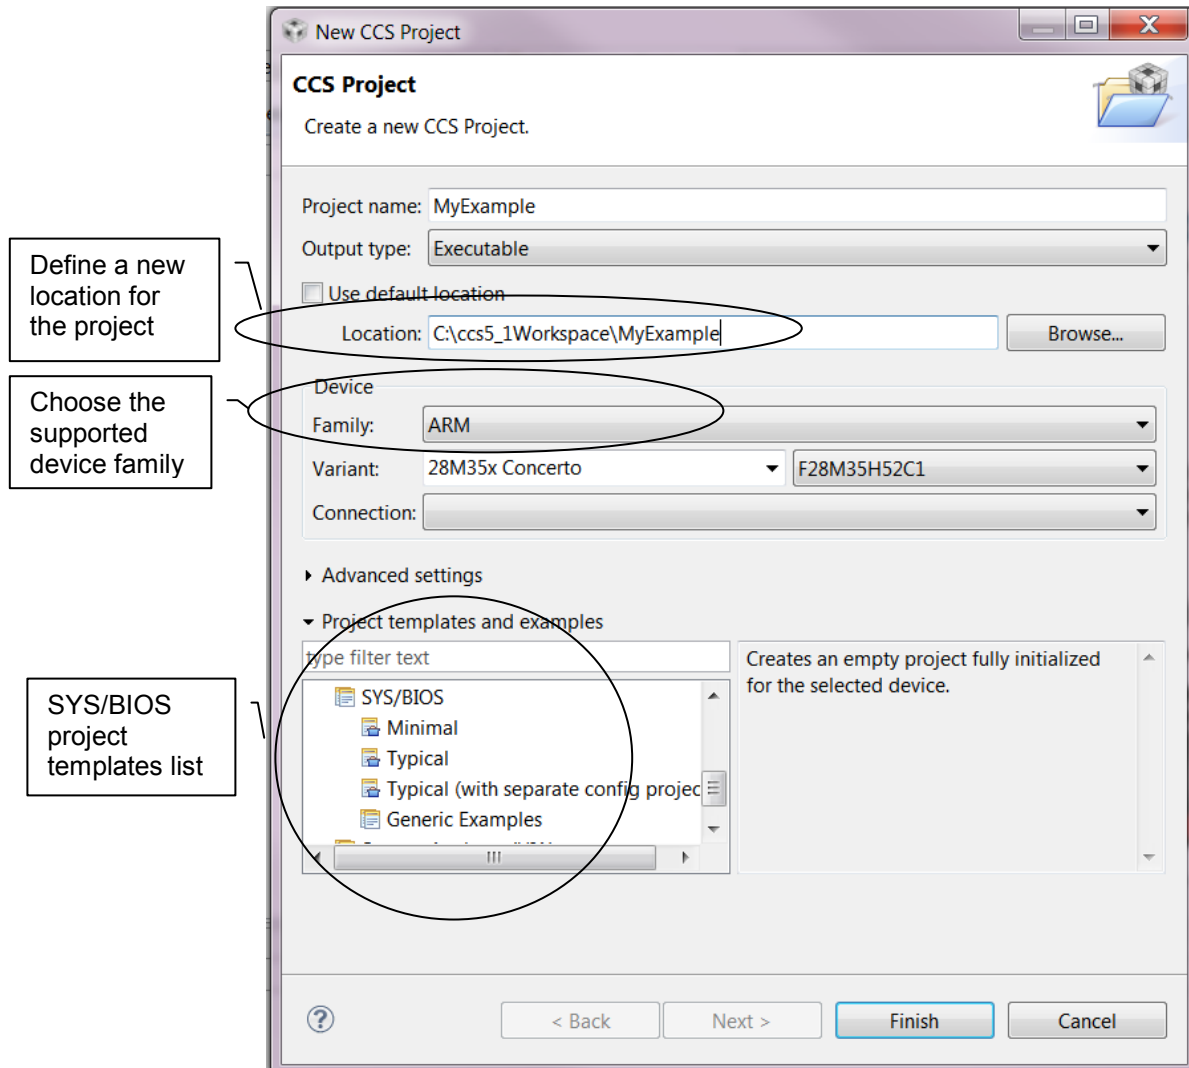

Figure 4. New CCS Project
- Choose the device family that is supported by SYS/BIOS; Figure 4 shows the SYS/BIOS project templates list. You can choose a template from this list as the template of your project. We choose a Task Mutex example.